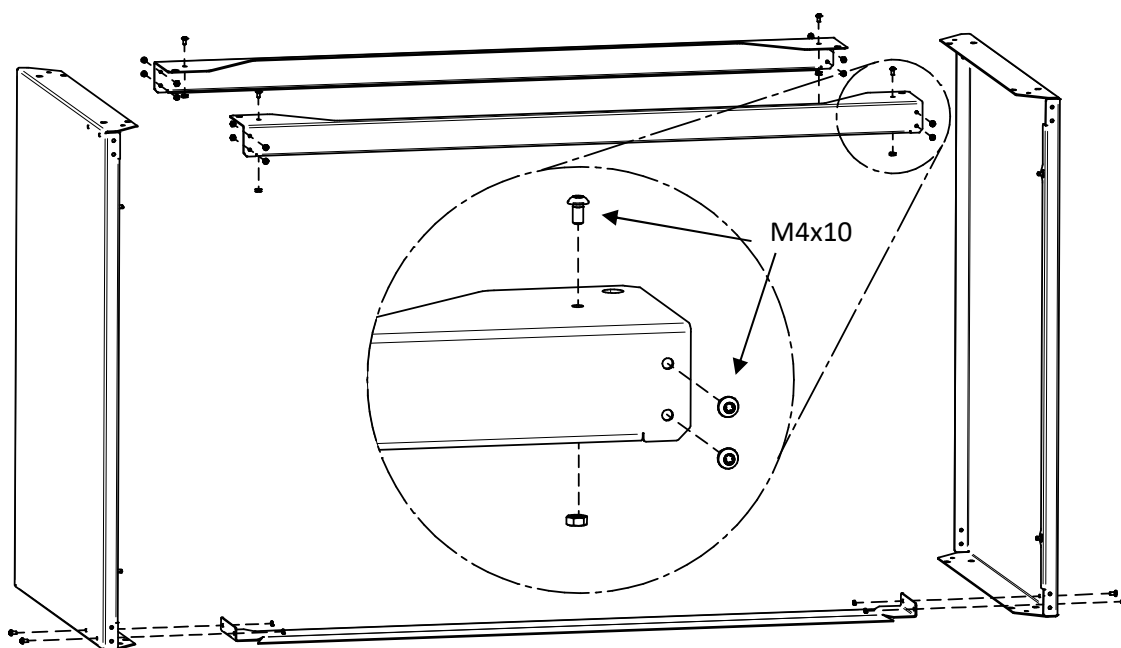

Figure 9-1: SUMO base
The following parts are available for mounting the substructure (see Figure 9-1)
3. Remove the front door from the unit (if present) and position the 30 litre canister and the empty 10 litre canister under the unit (in the roller bund, if present) as shown in Figure 9-1 (left side).